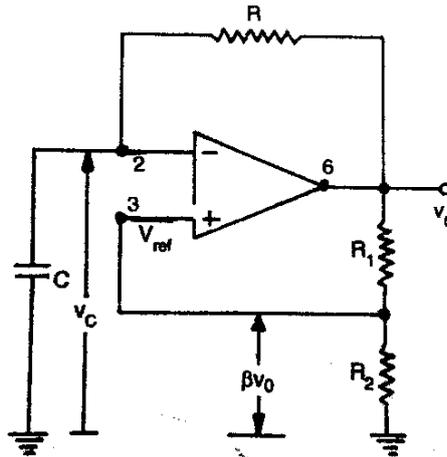

Fig. 3.30 Simple op-amp square wave generator
- A simple op-amp square wave generator is shown in Fig. 3.30.
- In Fig.3.30 fraction $\beta = R_2/(R_1 + R_2)$ of the output is fed back to the (+) input terminal.